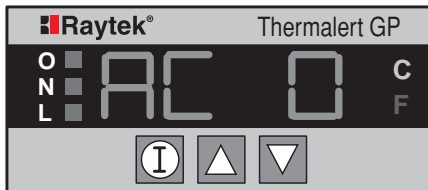

Figure 18: Ambient Temperature Compensation Display
- Press the ⓘ button several times until the Ambient Compensation indicator displays (Figure 18). The display shows either a “0” or “1” (default= “0” - Off).